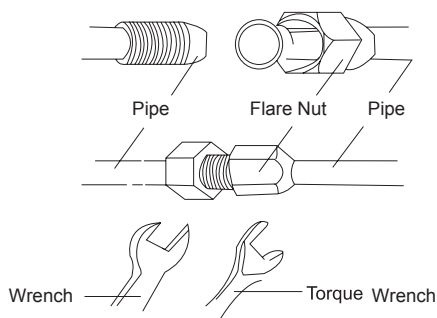

Fig.18
- (1). Let the flare end of the copper pipe point toward the screw, and then tighten the screw by hand.
- (2). After that, tighten the screw with a torque wrench. (Tighten as shown in Fig.18).